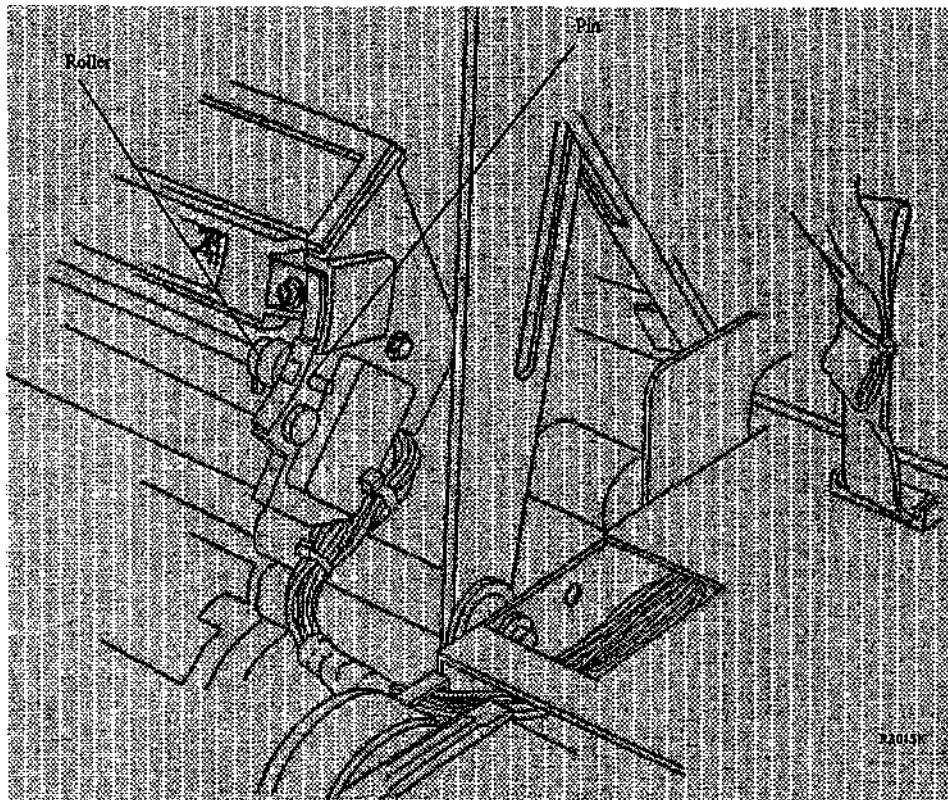

Figure 1. Removing the Front Roller
3. (Figure 1): Using pliers, pull out the pin and remove the roller.